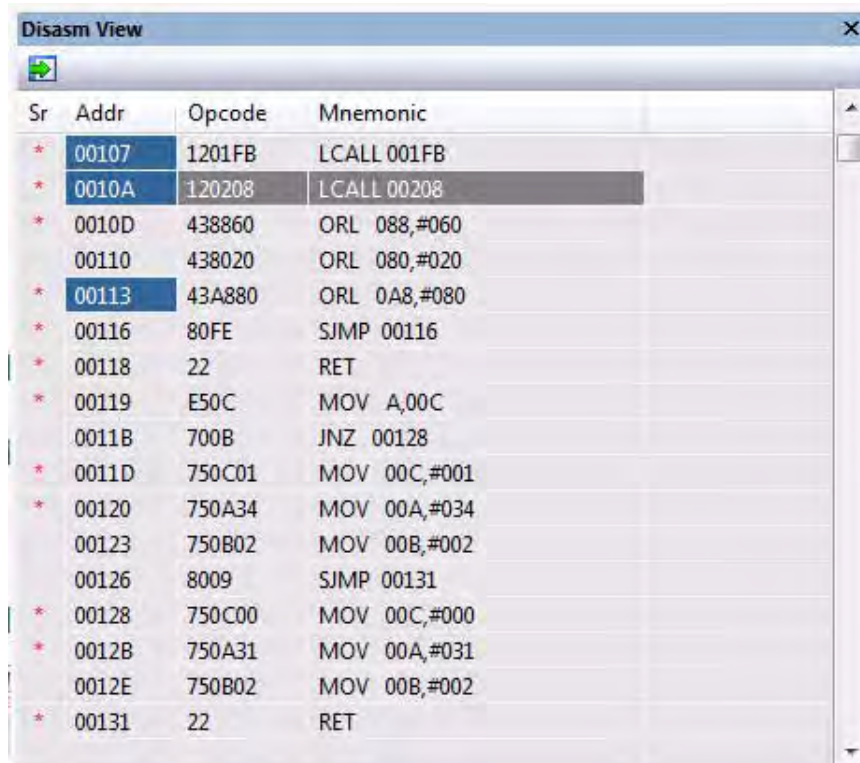

Figure 40. Using the PC Break Toggle Function
The target MCU's internal Program Counter (PC), sets or clears all PC breakpoint settings. The PC breakpoint count differs in each device in the Z8051 Series; normally, eight breakpoints can be set. In Figure 40, the blue line represents a program counter breakpoint in the line, and the grey line represents the current program counter.